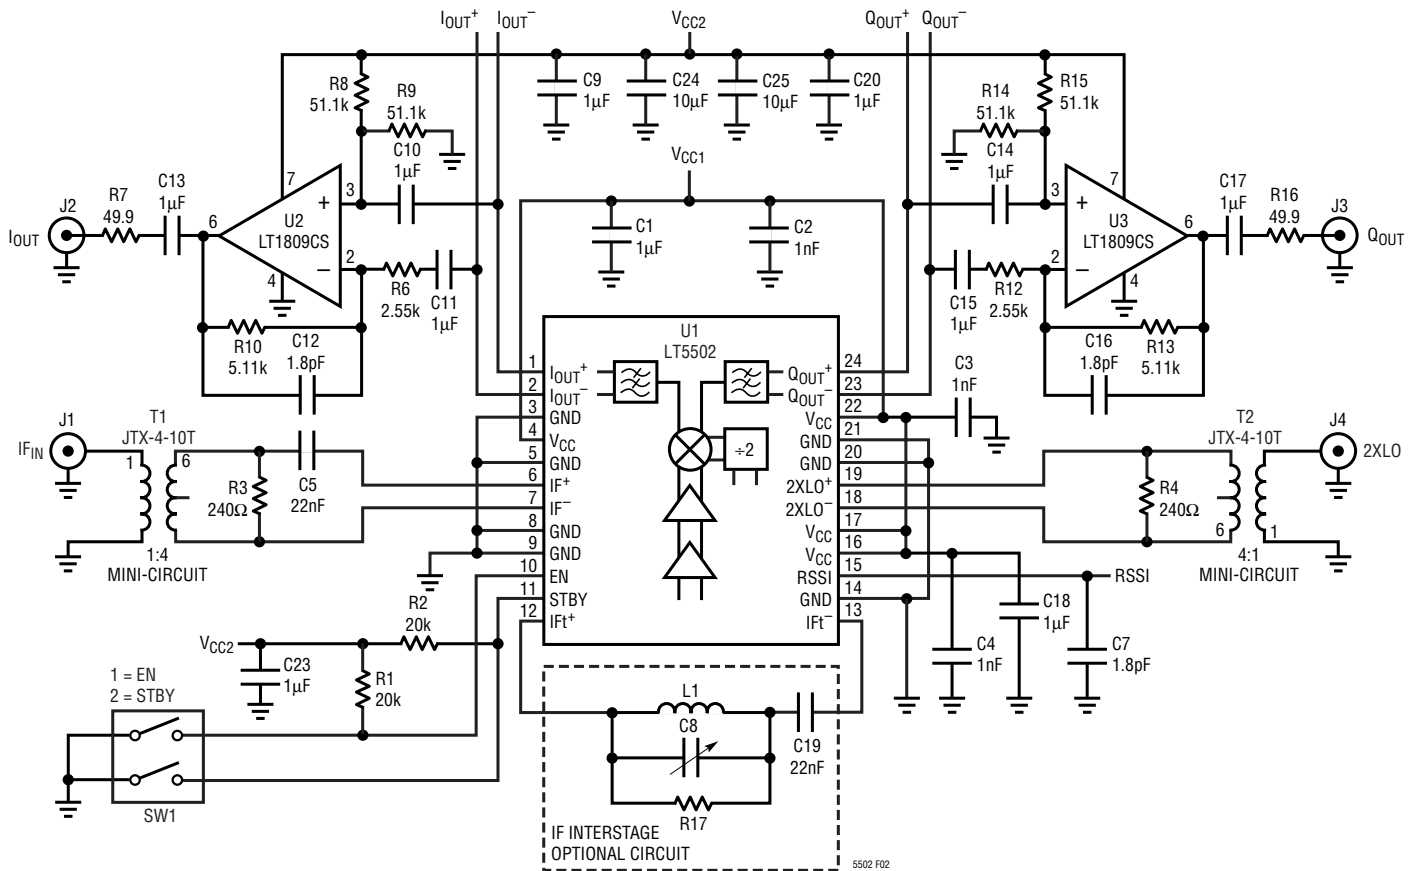

Figure 3. Evaluation Circuit Schematic With I/Q Output Buffers
**Note 3:** Tests are performed as shown in the configuration of Figure 3.
The IF limiter has 84dB small-signal gain with a frequency range of 70MHz to 400MHz. It consists of two cascaded stages of IF amplifiers/limiters. The differential outputs of the first stage are connected internally to the differential inputs of the second stage. An interstage filtering is possible in between (Pin 12 and Pin 13) with minimum off-chip components. It can be a simple parallel LC tank circuit L1 and C8 as shown in Figure 3. The 22nF blocking capacitor, C19, is used for the proper operation of the internal DC offset canceling circuit. To achieve the best receiver sensitivity, a differential configuration at the IF input is recommended due to its better immunity to 2XLO signal coupling to the IF limiter. Otherwise, the 2XLO interference, presented at the IF inputs, may saturate the IF limiter and reduce the gain of the wanted IF signal. The receiver's 3dB input-limiting sensitivity will be affected correspondingly. The interstage bandpass filter will minimize both 2XLO feedthrough and the receiver's noise bandwidth. Therefore, the receiver's input sensitivity can be improved. Without the interstage filter, the second stage will be limited by the broadband noise amplified by the first stage. The noise bandwidth in this case can be as high as 500MHz. The 3dB input limiting sensitivity is about -79dBm at an IF frequency of 280MHz when terminated with 200 $\Omega$  at the input. The differential IF input impedance is 2.2k $\Omega$ . Therefore, a 240 $\Omega$  resistor is used for R3 as shown in Figure 3. Using a bandpass filter with 50MHz bandwidth, the input sensitivity is improved to -86dBm.